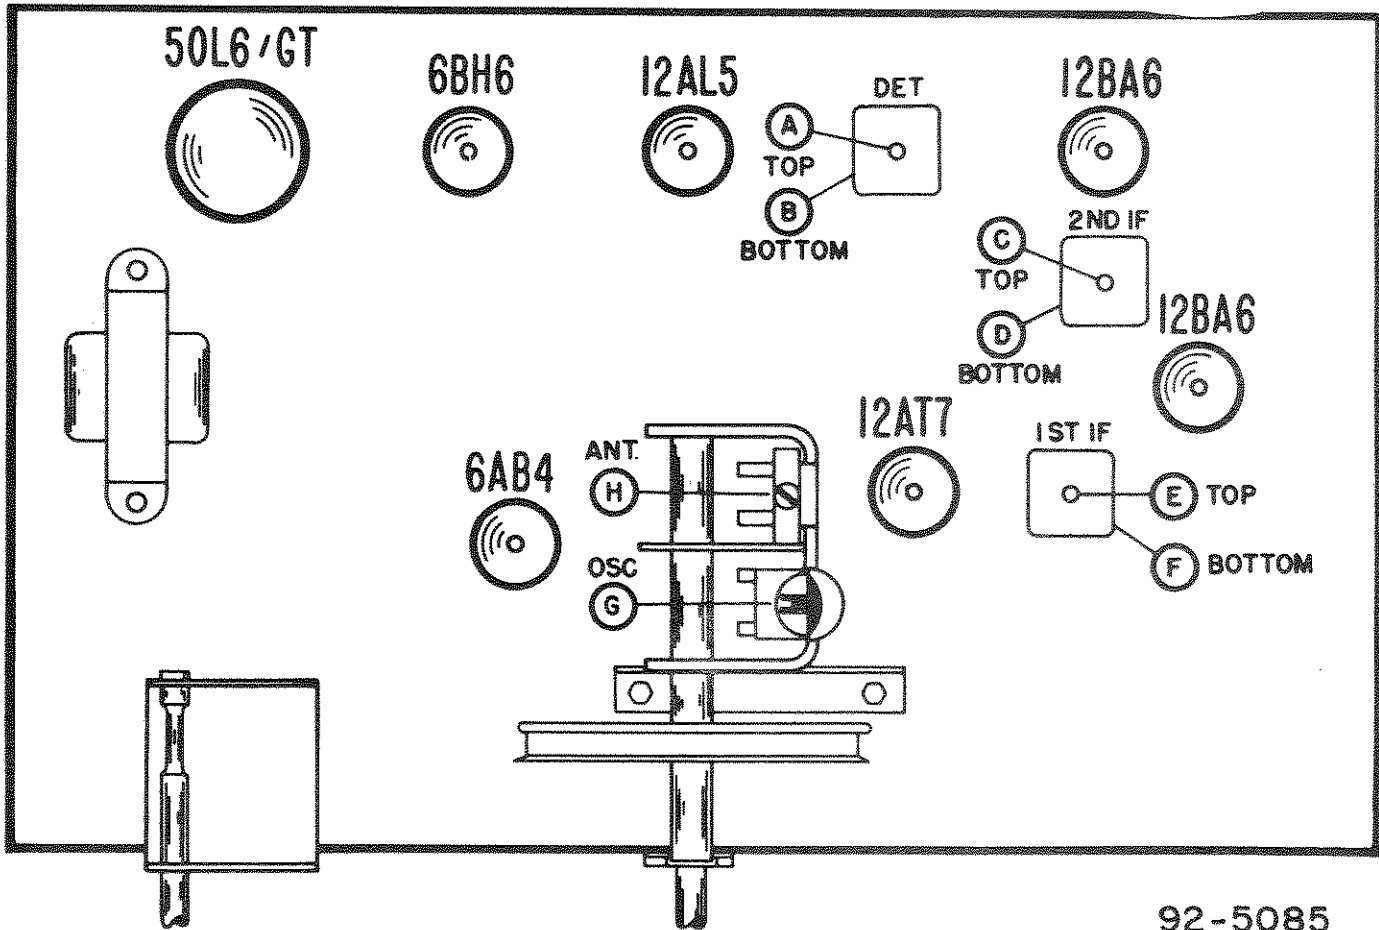

Fig. 5. Tube Location and Alignment Adjustments
6. See Fig. 5 for location of alignment adjustments.